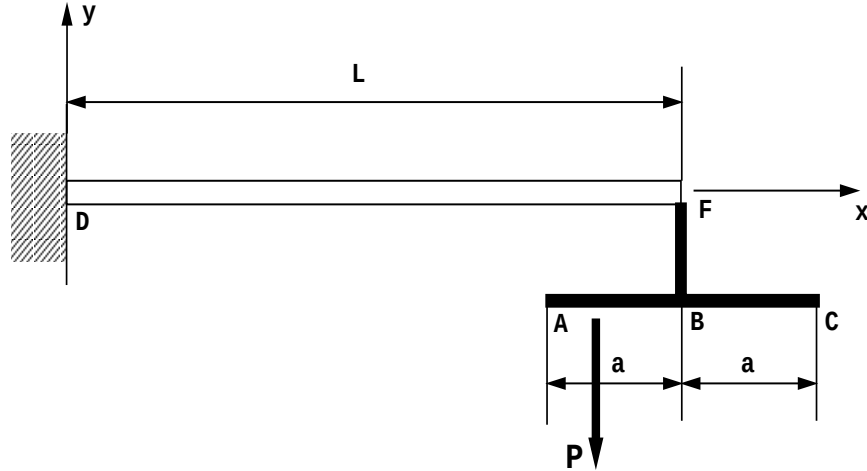

Figure 2: Problem 2-a
2. (40pts) The structure shown in Figure 2 is proposed as a calibration fixture for an experiment. The cantilevered beam DF has an inverted “T-shape” *rigid* bracket attached to its tip F, as shown in Figure 2, allowing the placement of the point load P at any location along ABC.